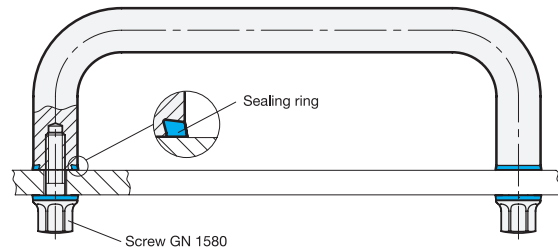

Fig. 2
- mounted on the rear side with a hygienically designed screw connection (Fig. 2).